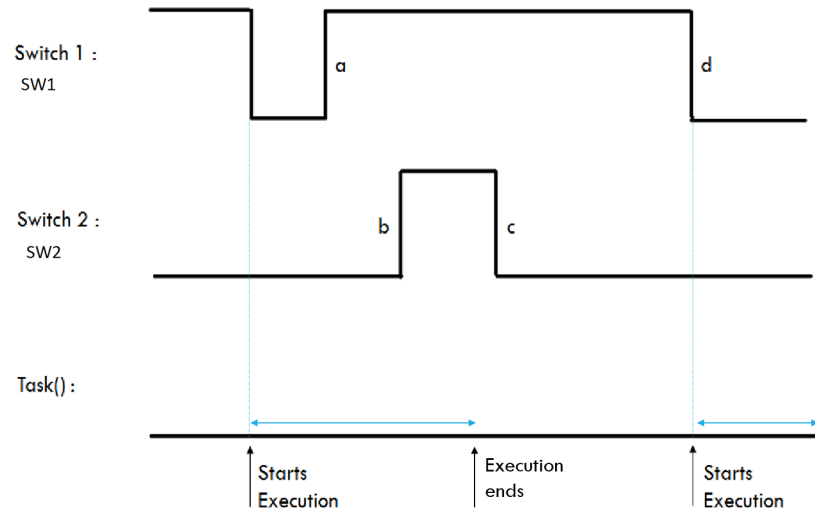

Figure 1: Timing Diagram.
1. [60 points]: A colleague wants your help in executing a particular task for which you need to write a code such that a task() is executed as soon as the following events occur (See Figure 1).